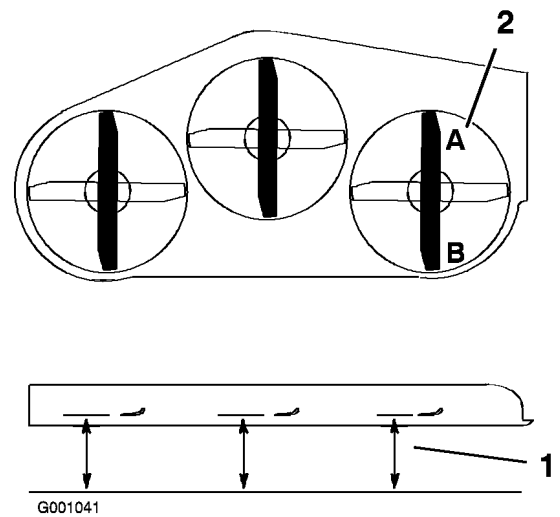

Figure 71
1. Position the right blade front-to-rear (Figure 71).
2. Measure the right blade at the **A** location, from a level surface to the cutting edge of the blade tip (Figure 71).
4. Measure the right blade at the **B** location, from a level surface to the cutting edge of the blade tip (Figure 71).
6. The mower blade should be a **1/4 to 3/8 inch (6 to 10 mm) lower at position A than at position B** (Figure 71). If it is not correct, proceed to the following steps.